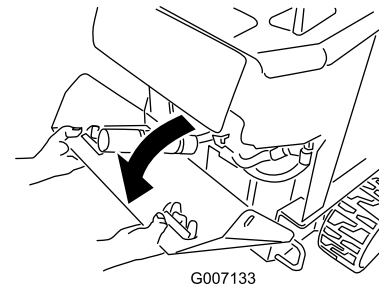

Figure 43
2. Swing the rear access cover down and pull it away from the traction unit (Figure 43).